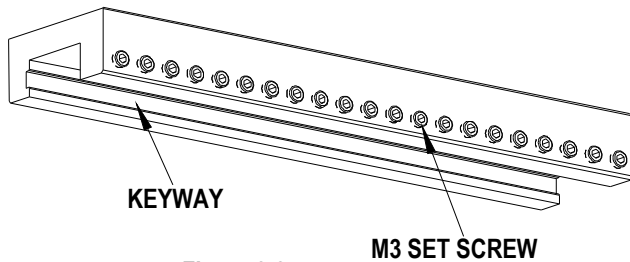

Figure 2-2
1. Along the lower edge of the tooling holder is a row of M3 set screws, (See Figure 2-2), loosen these a few turns so that they do not protrude into the inside of the holder.